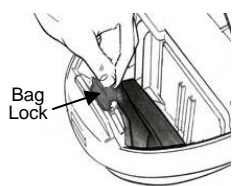

Fig. 16
2. Remove the old dust bag by pressing the bag lock towards you and away from the bag. (Fig. 16)